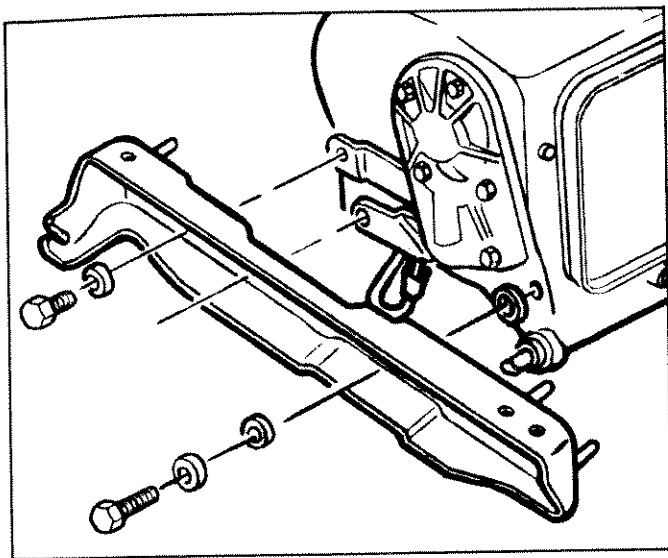

Fig. 47—Front Mount Bracket Bolts
16. Remove nuts from engine rear mount, then remove bolts attaching front mount bracket to transmission case (fig. 47).